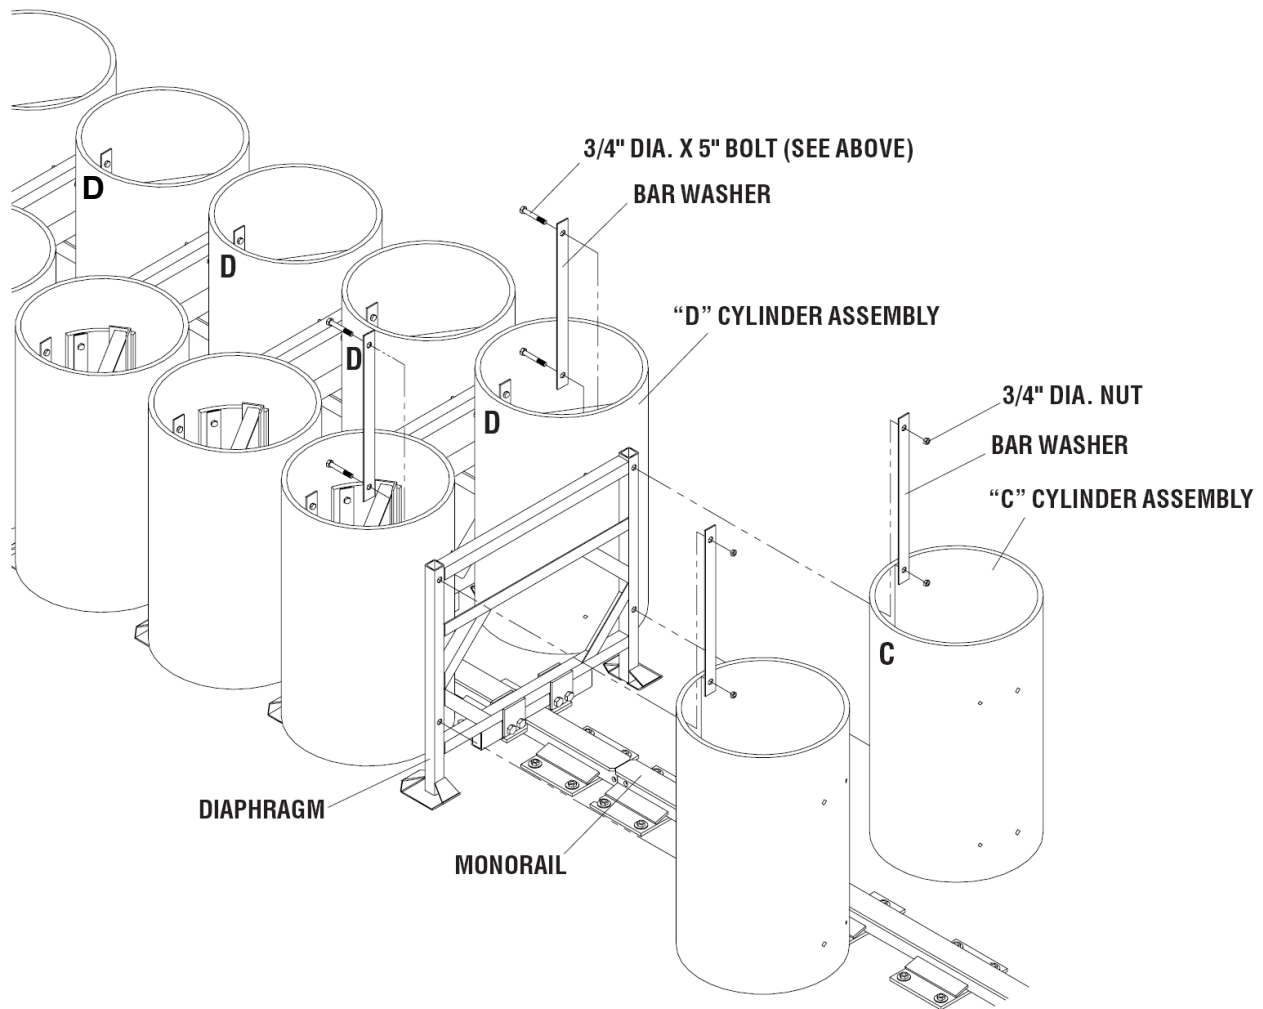

Figure 11
3. Reassemble "C" Cylinder/Diaphragm Assembly onto "D" Cylinder Assemblies as shown in Figure 11.